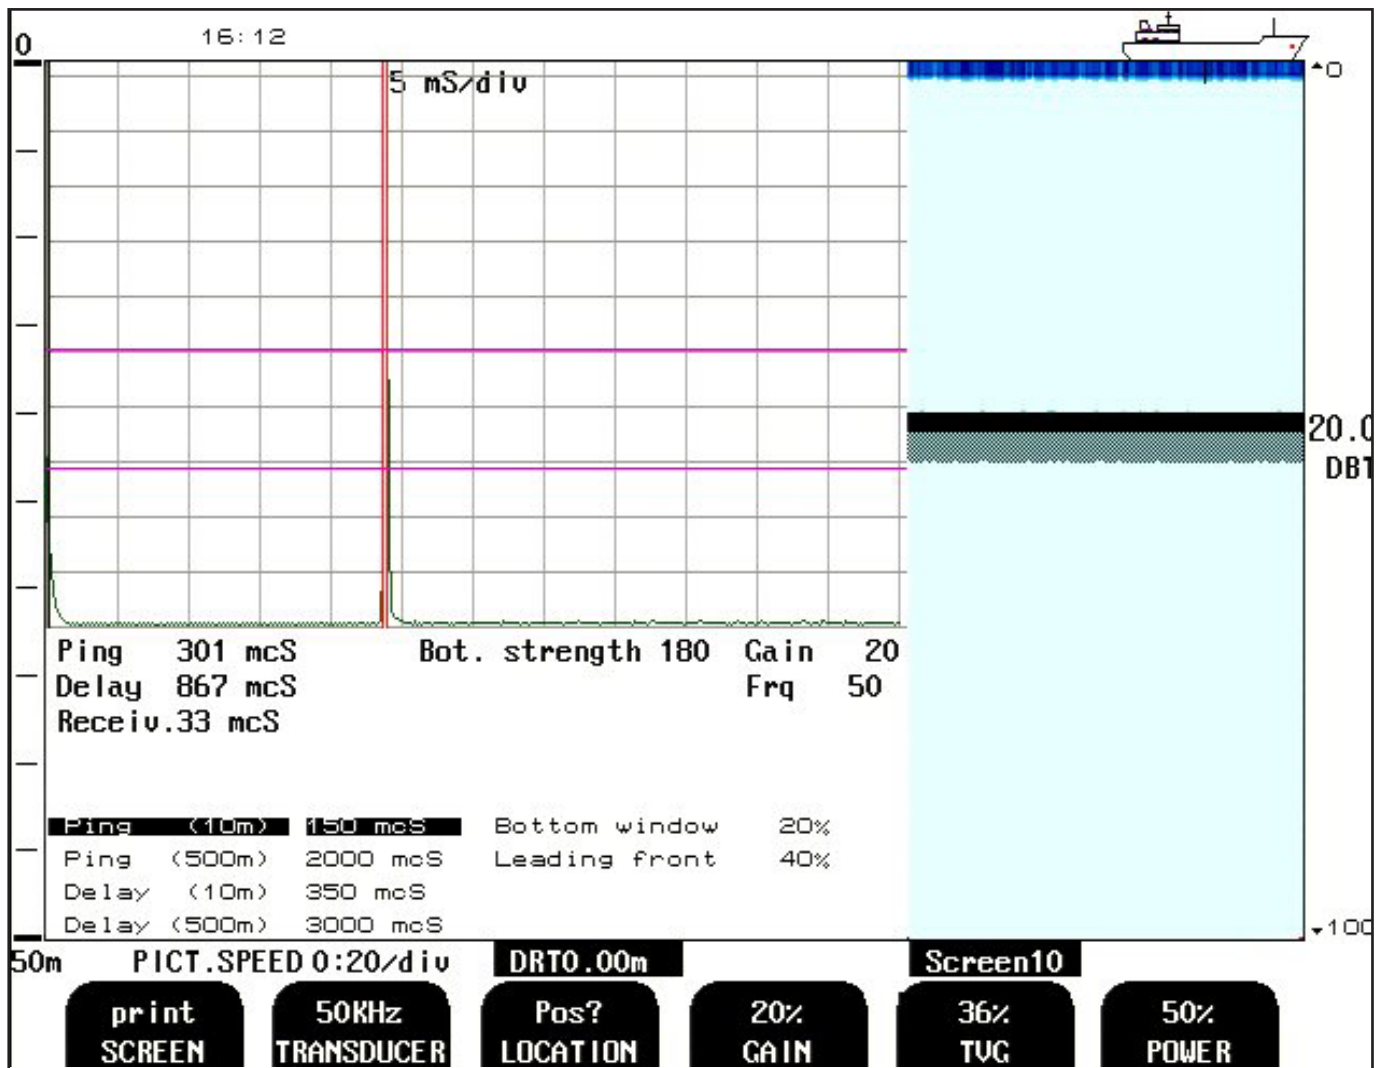

Fig. 2.11. Screen 10, Oscilloscope screen.
The currently selected transducer (frequency) is indicated at the bottom of all screens along with optional transducer position, e.g. 200 kHz/FWD. (DRT0.00 m and 200 kHz/FWD are toggling with 1 sec. interval.) Selection of the transducer position reference is performed in screen 10. See “Fig. 2.11. Screen 10, Oscilloscope screen.” on page 23.
| 2 | FREQUENCY | 38*/50/200 kHz | 50 kHz | Transducer selection. (Have to be "installed" in screen 10, soft key 2 and 3). See " Fig. 2.11. Screen 10, Oscilloscope screen. " on page 23. |
The received signal gain may be adjusted from 0 to 100 % to allow for optimal echo levels from bottom and other objects. The gain setting affects signals from all depths. See “Fig. 2.2. Screen 1, Primary Operation screen.” on page 14 and “Fig. 2.11. Screen 10, Oscilloscope screen.” on page 23.
Time Variable Gain may be adjusted from 0 to 100 % to allow for detailed echo control from the 0 - 50 m depth range. A low setting will reduce the gain in the area near the surface to suppress noise and unwanted echoes from this area. See “Fig. 2.2. Screen 1, Primary Operation screen.” on page 14 and “Fig. 2.11. Screen 10, Oscilloscope screen.” on page 23.